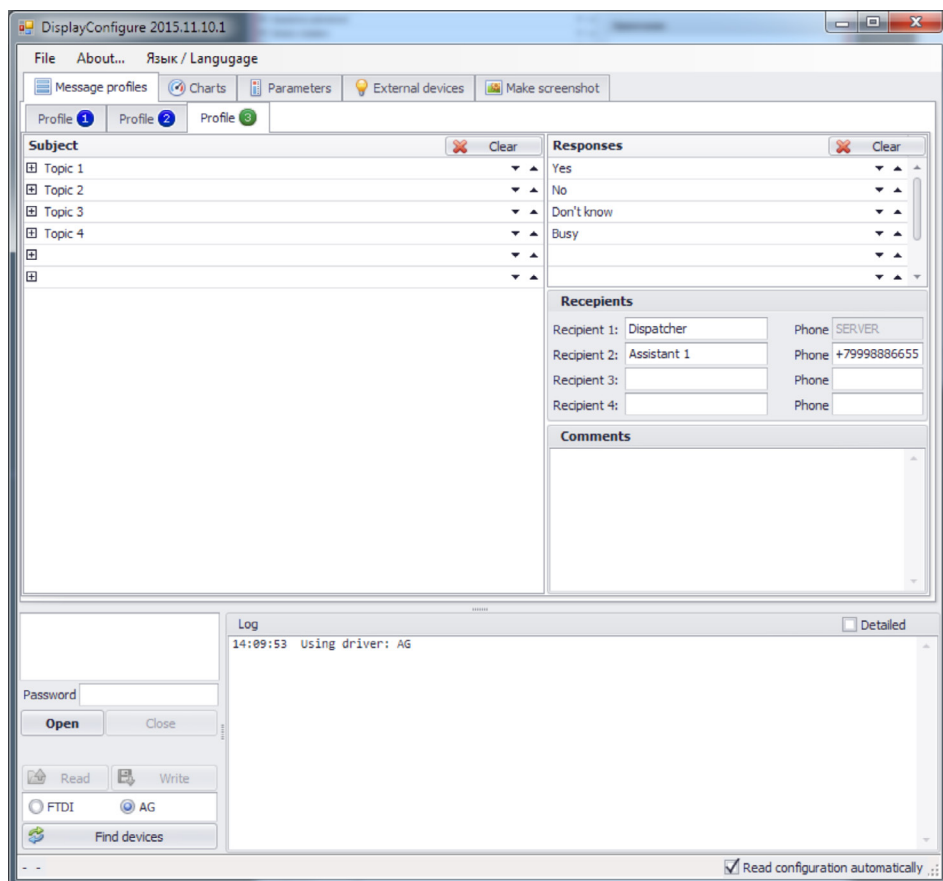

Fig.48. Messages profiles.
- Go to the Profile 3 tab (Fig.48).